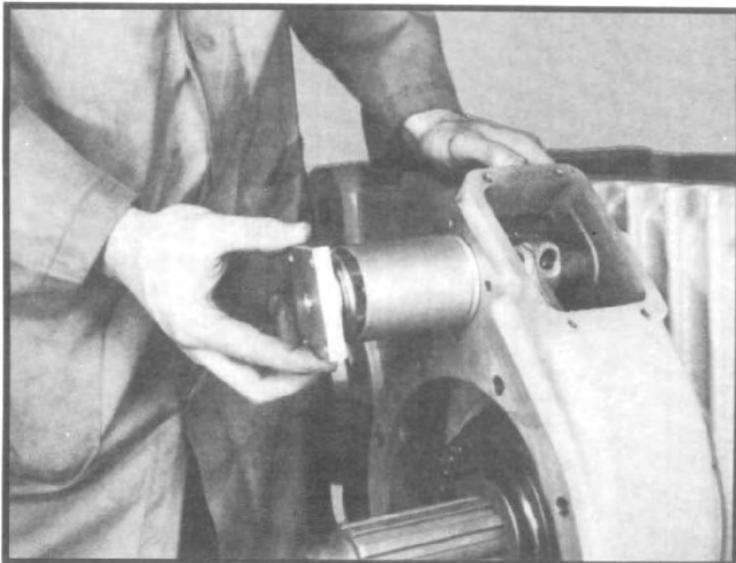

Fig. 12
9. Remove four long capscrews from shift cylinder, and lift off cylinder cap. (See fig. 12.)